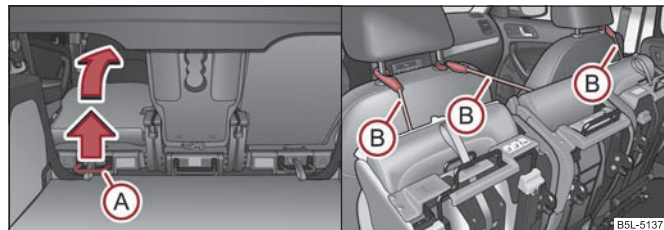

Fig. 62 Fold seat forward / secure folded forward seats
- Pull the lever ⇒ page 74, fig. 62 up and then fold the seat fully forwards.
- Secure the folded forward seat with the aid of the fixing belt (B) to a guide rod of the head restraint for the front seat ⇒ page 74, fig. 62.